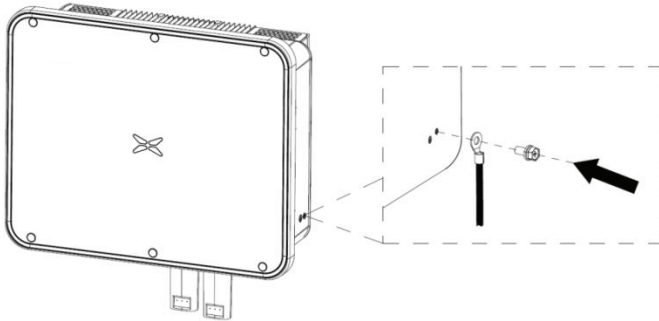

Fig 5.2 PV grounding diagram
(1) As shown in Fig 5.2, connect the output wire of the PV string to the DC connector of the inverter. Loosen the fastening nut of the connector; strip off the 15mm insulation layer of the DC cable, and use crimping pliers to press the standard metal terminal tightly. The tightening torque of the waterproof part at the tail is 2.5-3Nm. The wiring method of the positive and negative connectors is the same. Confirm that the positive and negative poles of the PV string correspond correctly to the positive and negative connectors, then connect them firmly;